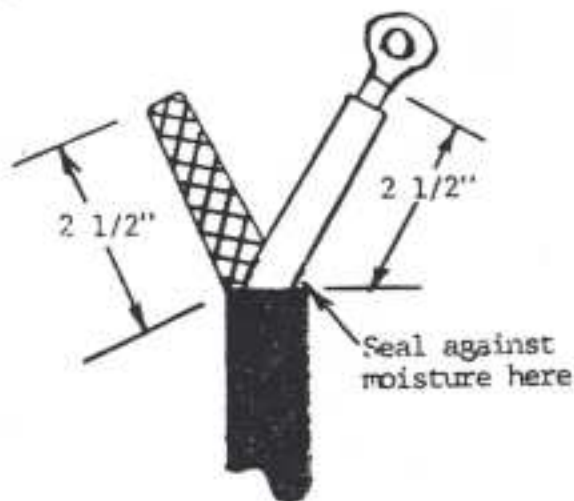
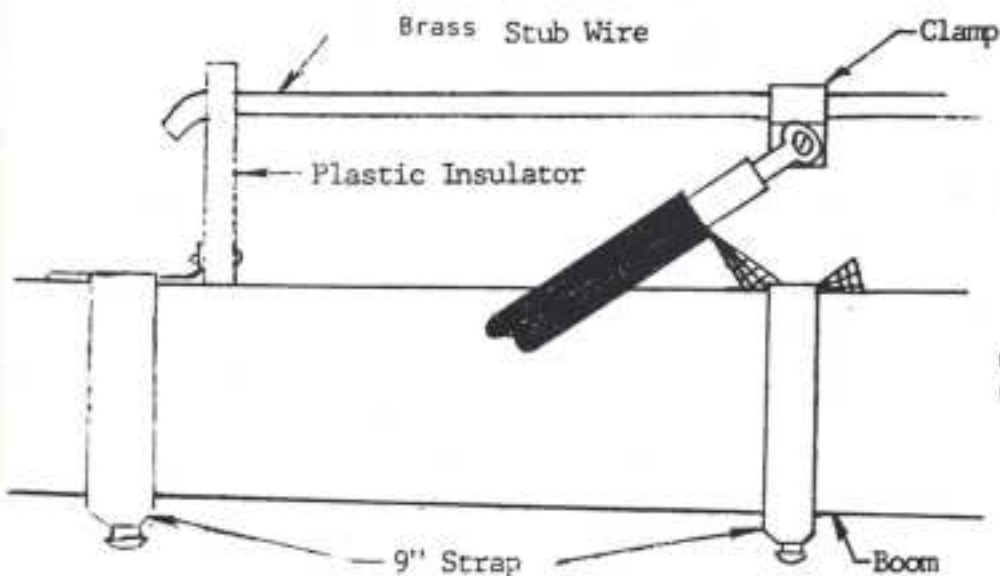

figure 12
Figure 13a- Coax attachment to Brass Stub Wire
- 12) Prepare your two 50 ohm coax cables as shown in fig.12 below. The crimp terminals supplied may be simply crimped to the coax center conductor, however soldering is recommended in addition to crimping. One coax line is attached to each stub wire as shown in fig. 13a,b below. A good starting point for attachment of the coax to the stub is about 2" in from the insulator. The coax center conductor goes to the bare stub wire, and the braid simply is clamped directly to the boom, directly opposite the center conductor point of attachment, by means of a 9" strap.